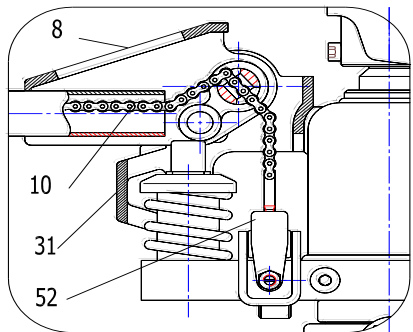
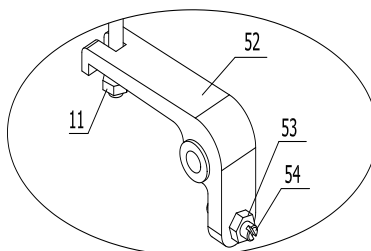

Fig.2
Fig. 4
- 3.4 Cross the chain 10 of the Handle Tube through the hole of the pin shaft 23. Please refer to Fig.2.
- 3.5 Put the Screw and nut at the end of chain 10 into the slot of the lever plate 52. Please refer to Fig.2 and Fig.4.
- 4.2 The screw 53 in fig 4 is used to adjust the truck situation. When the truck body drops immediately after it is lifted, you should turn the screw 53 a little counter-clockwise. And then try the truck again until truck body could lift normally. If the truck body couldn't drop after it is lifted, you should turn the screw 53 a little clockwise. And then try to operate truck again until the truck body could drop normally. The external hexagon nut 54 at screw 53 plays the locking function in the truck. So you should undo the external hexagon nut before adjustment. And screw down the nut after you finish the adjustment.